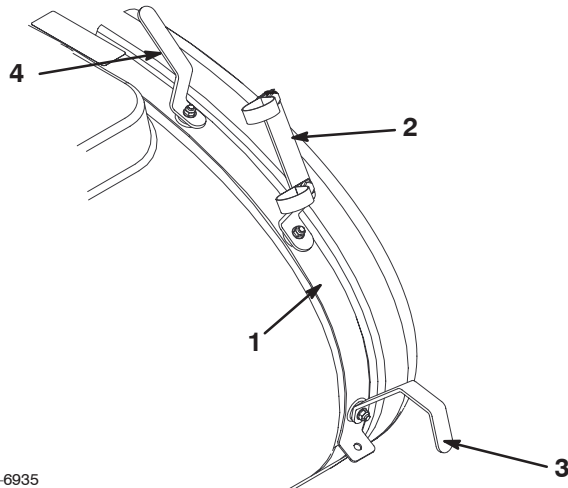

Figure 1
1. Remove the fasteners securing the right side of the rear tank strap (Fig. 1).
2. Install the hose hooks and spray gun bracket as shown in Figure 1, using 3 carriage bolts (5/16 x 3/4 inch) and flange nuts (5/16 inch).
1. Remove the fasteners securing the right side of the front tank strap (Fig. 1).
2. Install the hose hook with a single bend and the spray gun bracket as shown in Figure 1, using 2 carriage bolts (5/16 x 3/4 inch) and flange nuts (5/16 inch).